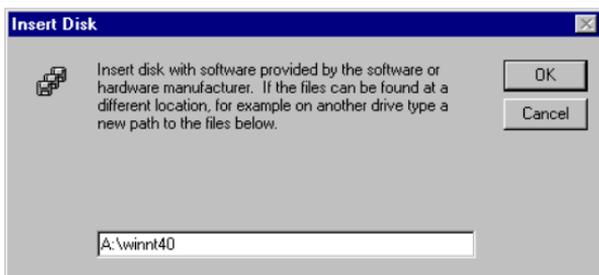

Figure 5.4 Insert Disk Window
- 5.. Click **Have Disk ...**, after *Insert Disk* window, shown in Figure 5.4, popped up, give the search path, **A:WINNT40**, then insert driver diskette, and click **OK**.